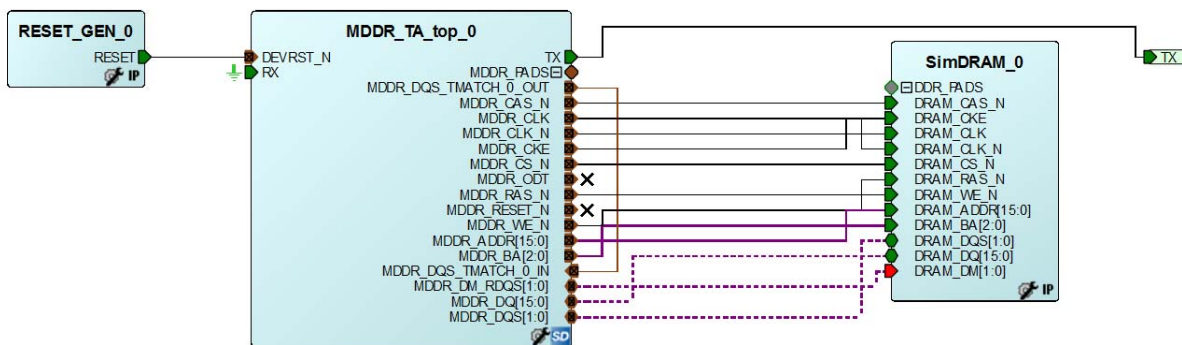

Figure 24 • SmartDesign Testbench for Example Design with Microsemi LPDDR SDRAM VIP
- Connect as described in "Simulation Using Micron LPDDR SDRAM Model" section on page 15. The connections are same as the Micron model. Figure 24 shows the SmartDesign testbench for the example design with Microsemi LPDDR SDRAM VIP model.